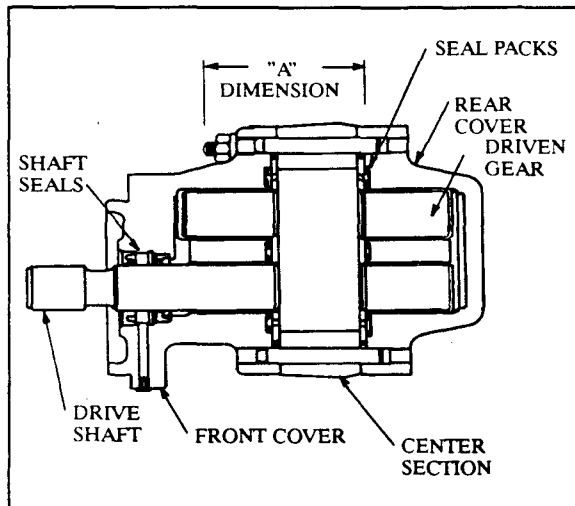

Figure 1. Single Gear Pump Section View
These latest design single gear pumps (Figure 1) have been developed for increased pressure ratings, improved low speed capability, better overall efficiency, enhanced flexibility and improved reliability. The all cast iron construction adds to pump durability and noise reduction. The high pressure capacity and high speed, allows for efficient power transmission in a small sized package.
**Basic Pumps** - The pumps illustrated in Figures 1, 1a, and 2 are representative of all double and single pumps in this series. The gear pump consists of a port section, front and rear cover, adaptor section (double pump), center section, drive gears, driven gears, wear plates, seal packs, shaft seals, and shaft couplings (double pump). Thru-drive models have different port housing subassemblies and drive gear shafts along with SAE drive couplings.